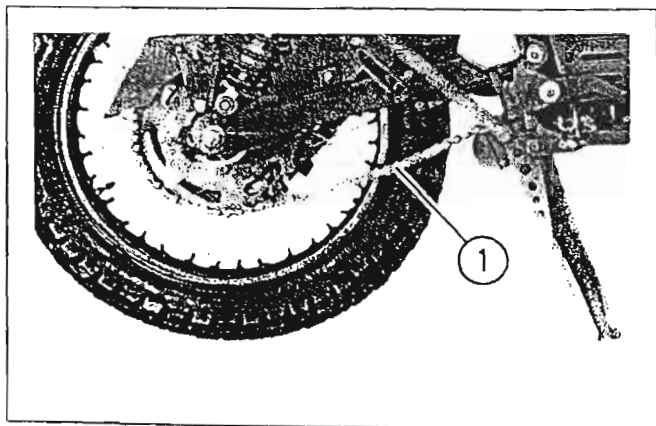

Figure 2-13. Drive Chain
See Figure 2-13. Check drive chain (1) for dirt, dust, and other foreign matter. If chain is dirty, raise vehicle rear wheel off ground and clean chain with a stiff bristle brush. Lubricate clean chain with chain lubricant compatible with O-ring seal chains.